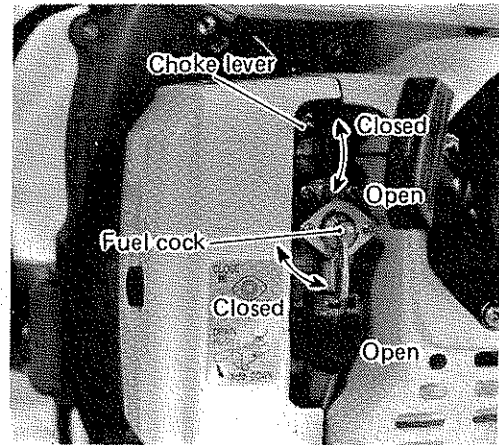
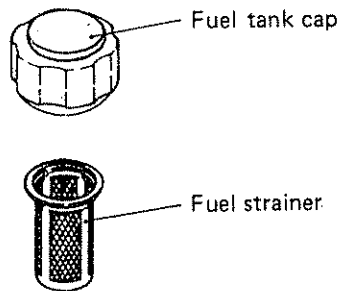

Figure 4
Figure 10
- (1) Do not over fill the fuel tank.
- (2) Wipe all spilled fuel with a dry cloth.
- (3) Always attach the fuel strainer. (Fig. 10)
- (4) Tighten fuel cap securely.
V. STARTING THE ENGINE (Fig. 4 & 5)
1. Open fuel cock. (Fig. 4)
2. Close choke lever. (Fig. 4)
2. Fuel strainer (Fig. 10)